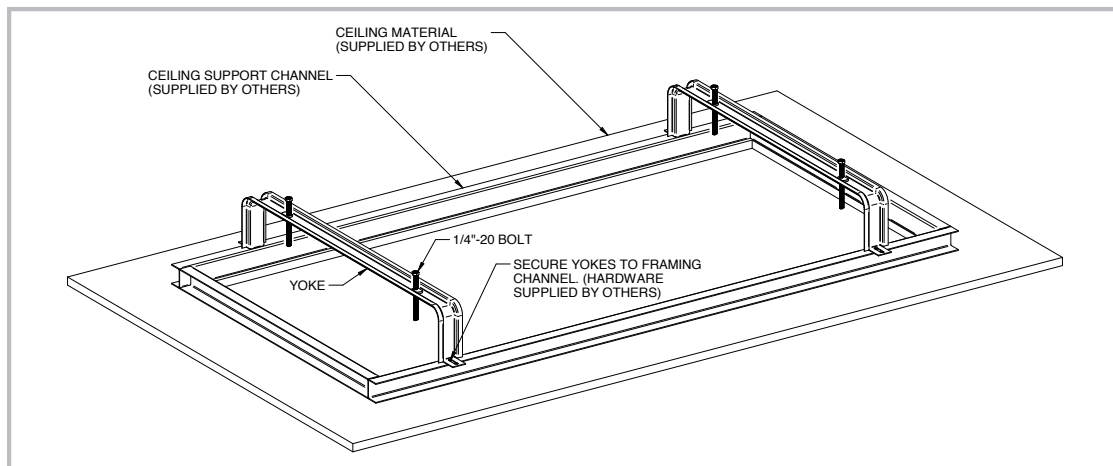

Figure 2: Yoke Mounting
4. Thread the 1/4"-20 bolts through the yokes from the top and secure yokes to the support framing on plenum side of ceiling opening as shown in *Figure 2*.